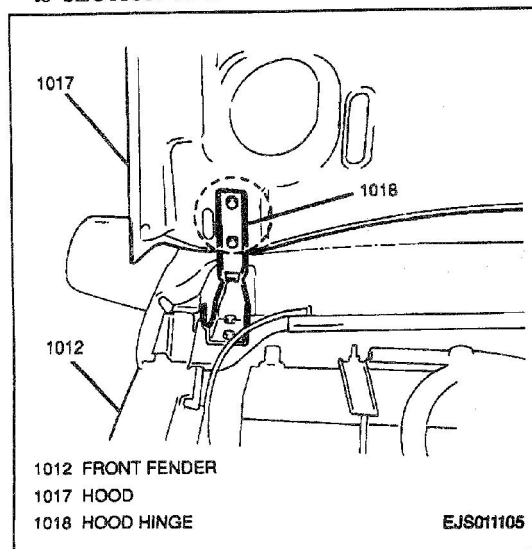

Figure 11—Hood Hinge
Figures 11 and 12
4. Two bolts from each hood hinge and hood from vehicle (Figure 11).
2. Hood to hinges; secure to each hinge with two retaining bolts but do not tighten fully (Figure 11).
1. Two bolts from each hood hinge and hood from vehicle (Figure 11).
2. Two bolts from hood hinge and hinge from vehicle (Figure 11).
1. Hood hinge to vehicle; secure with two bolts (Figure 11).